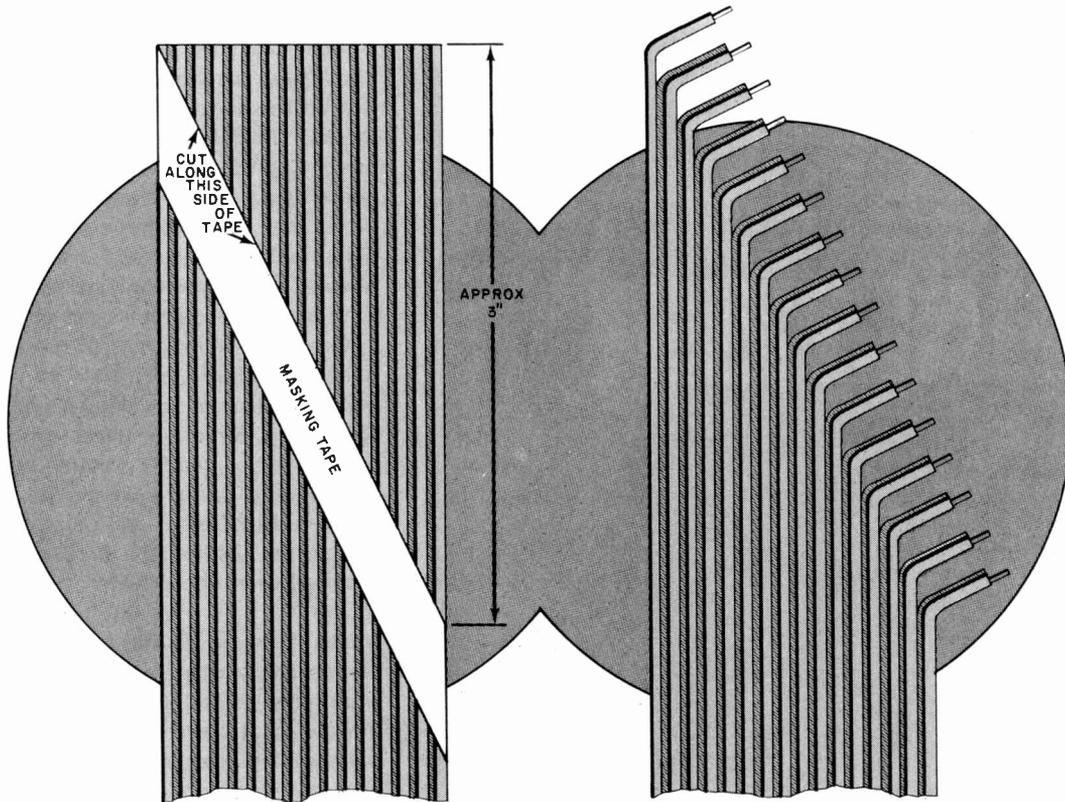
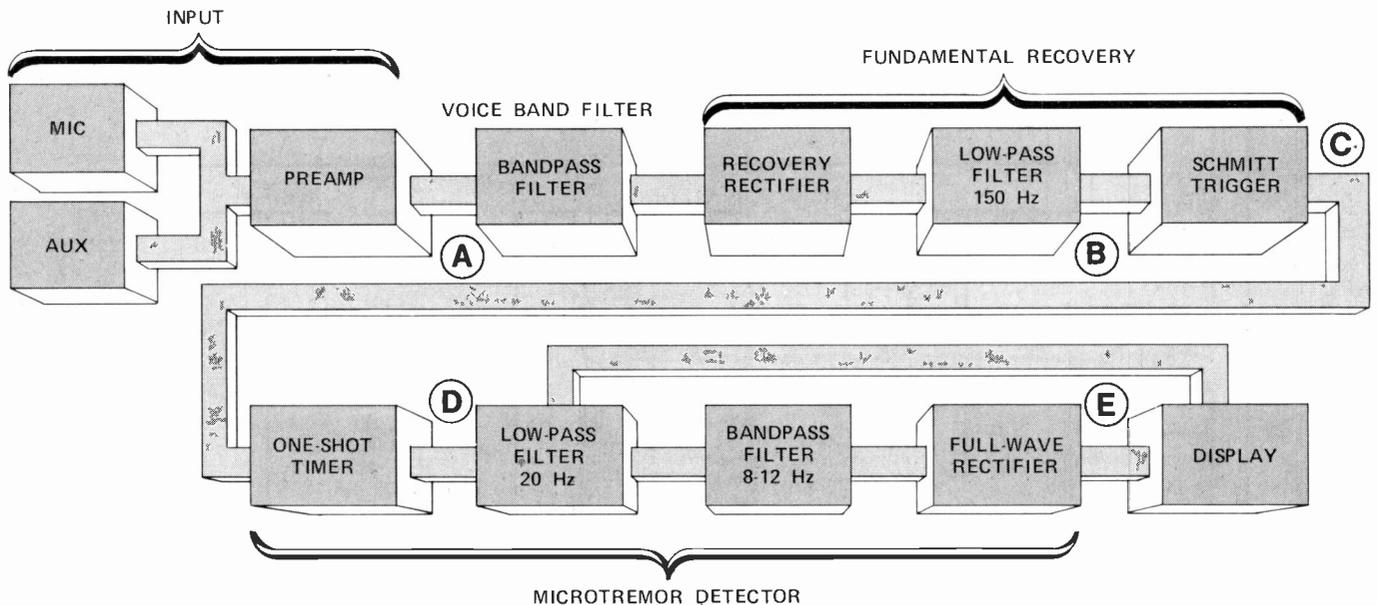

Fig. 3. The 16-lead ribbon cable is prepared as shown here with the leads cut diagonally so that they can be connected easily to circuits on the board.
Fig. 2. The analyzer circuit is designed to extract the 8-to-12-Hz microtremor from the voice input and use the resultant signal to turn on a LED display.
**System Operation.** Basic operation of the Voice Stress Analyzer is shown in Fig. 2, while Fig. 3 illustrates typical waveforms (not drawn to scale) that occur in the circuit.
*Fig. 3. Typical waveforms within the analyzer. According to the authors, the "trick" lies in detecting the presence of the narrower microtremor peak spacing within the voice frequencies. Integrated one-shot pulses derived from these signals are used to toggle the readouts.*